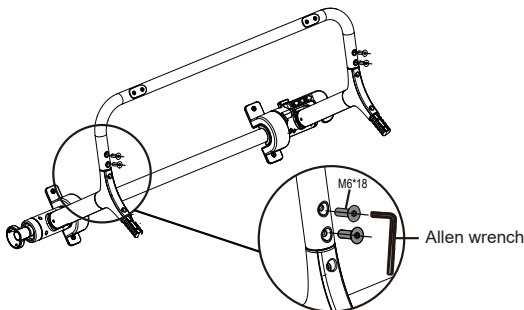

Figure 2
Step 3: Tighten the four M6*18 screws with an Allen wrench, as shown in Figure 2.